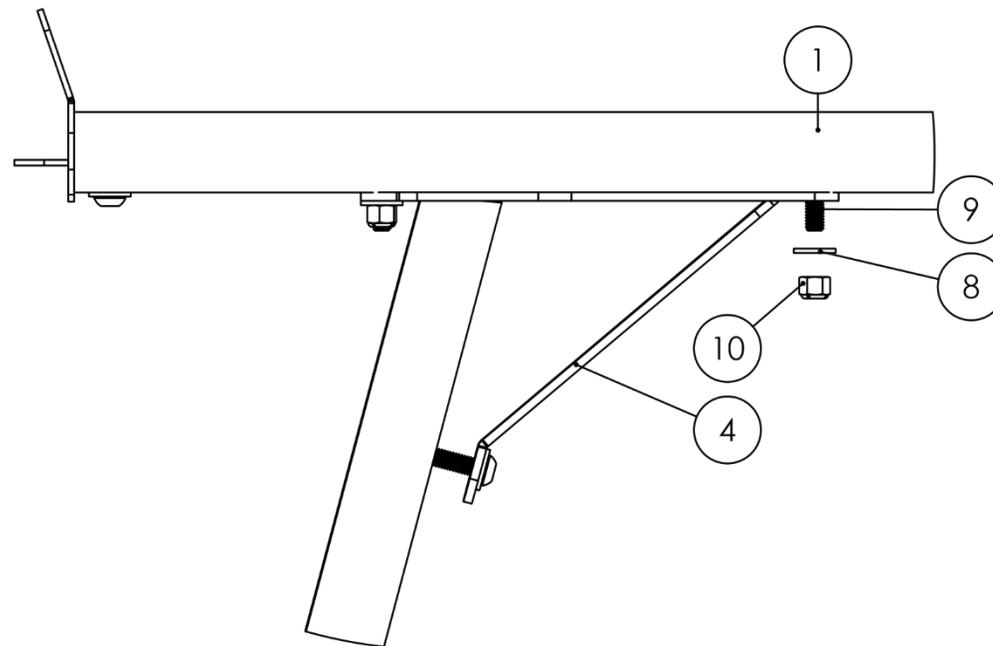

Figure 11
7. **Install the Crossbars onto the Legs.** To install a Crossbar (Item No. 1), hold it above the Legs (Item No. 5) so that the ends of the Carriage Bolts (Item No. 9) hang down and align with the holes on the Crossbar Gusset Assembly (Item No. 4). Using a Metal Washer (Item No. 8) and a Nylon Lock Nut (Item No. 10) secure each Leg and Crossbar. Figure 11 shows the bolt assembly as it is required.